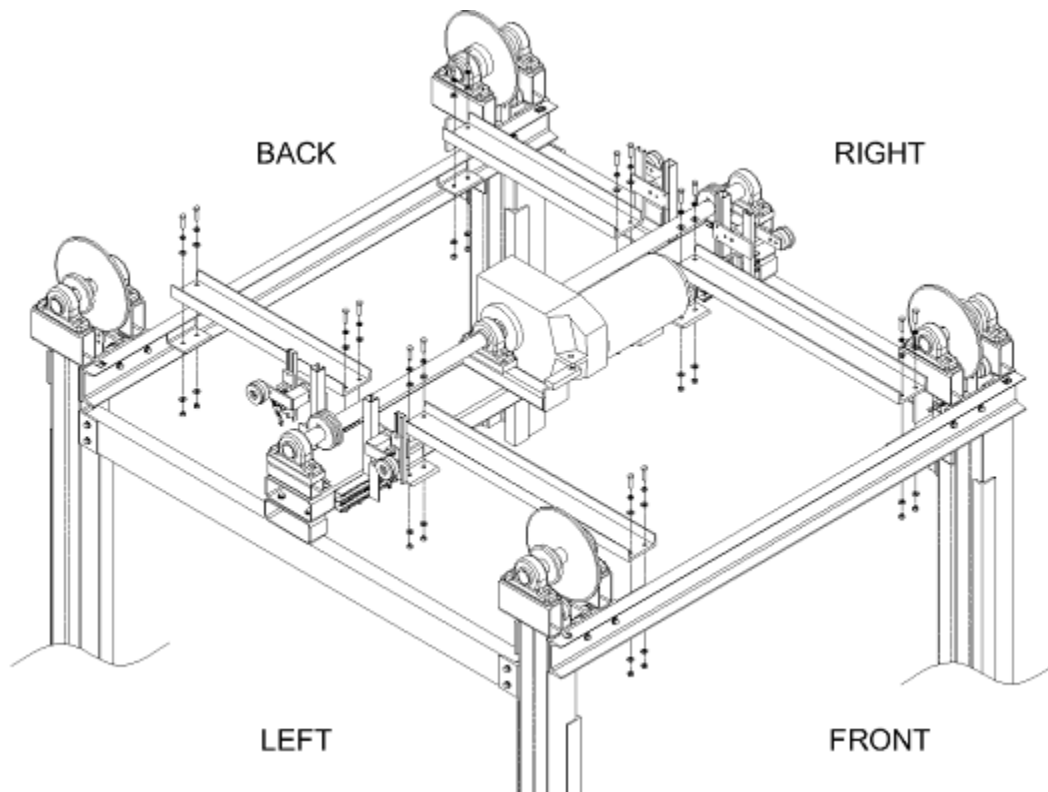

Figure 27 Drive Base Front & Back Channel Attachment
2. Bolt the (2) Front-to-Drive-Base channels and (2) Back-to-Drive-Base Channels into place as shown in **Figures 27 and 28** using the high grade 1/2" x 2" lg. bolts, lock washers, and nuts provided. Torque to 99 ft. lbs.